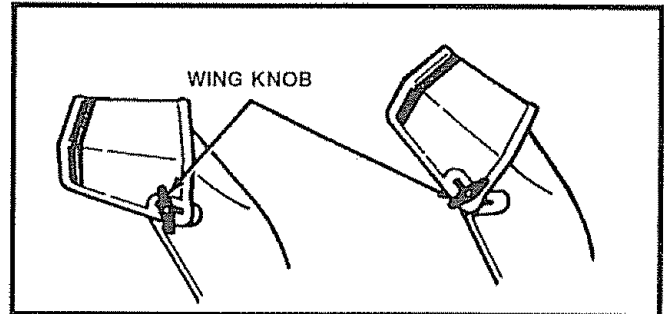

FIG. 9
- Loosen the wing knob on the chute deflector and move the deflector to set the **distance**. Move the deflector **UP** for more distance, **DOWN** for less distance. Then tighten the wing knob (See Fig 9)